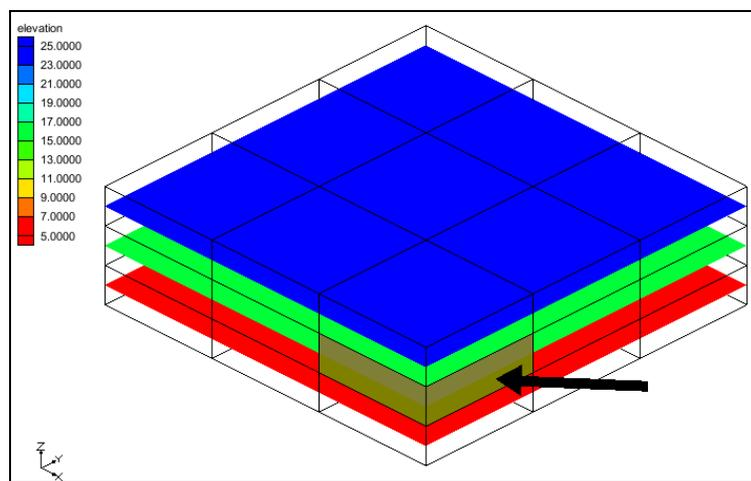

Figure 12 Elevation contours
- Using the **Select Cells**  tool, select the cell shown in Figure 12 (IJK: 3,3,2).